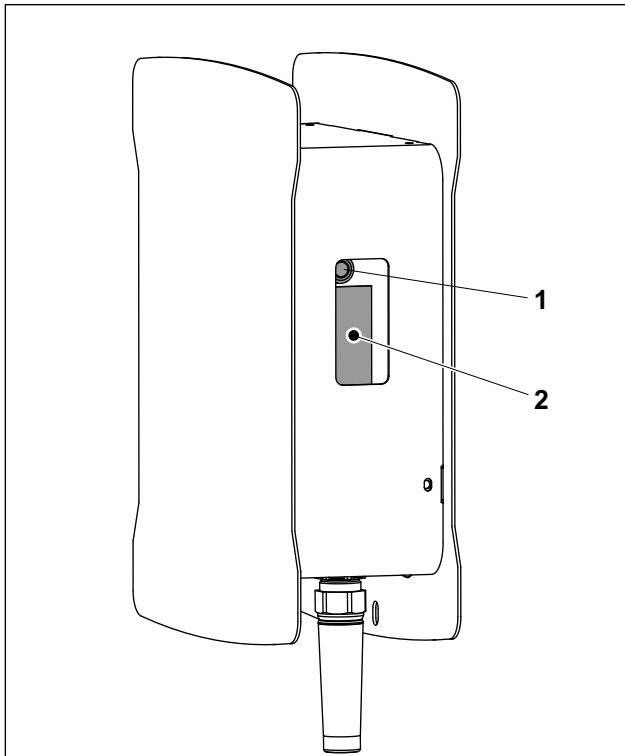

Fig. 1 Wallbox basicEVO
The charging process **cannot** be stopped with the button (Fig. 1/1). There are three ways of stopping the charging process:
If the Wallbox does not react after the charging cable has been plugged in or after pressing the button (Fig. 1/1), please check the building's power supply (circuit breakers, residual current circuit breaker).
- To reset the residual current circuit breaker, press the button (Fig. 1/1) for longer than 3 seconds. The LED flashes green.